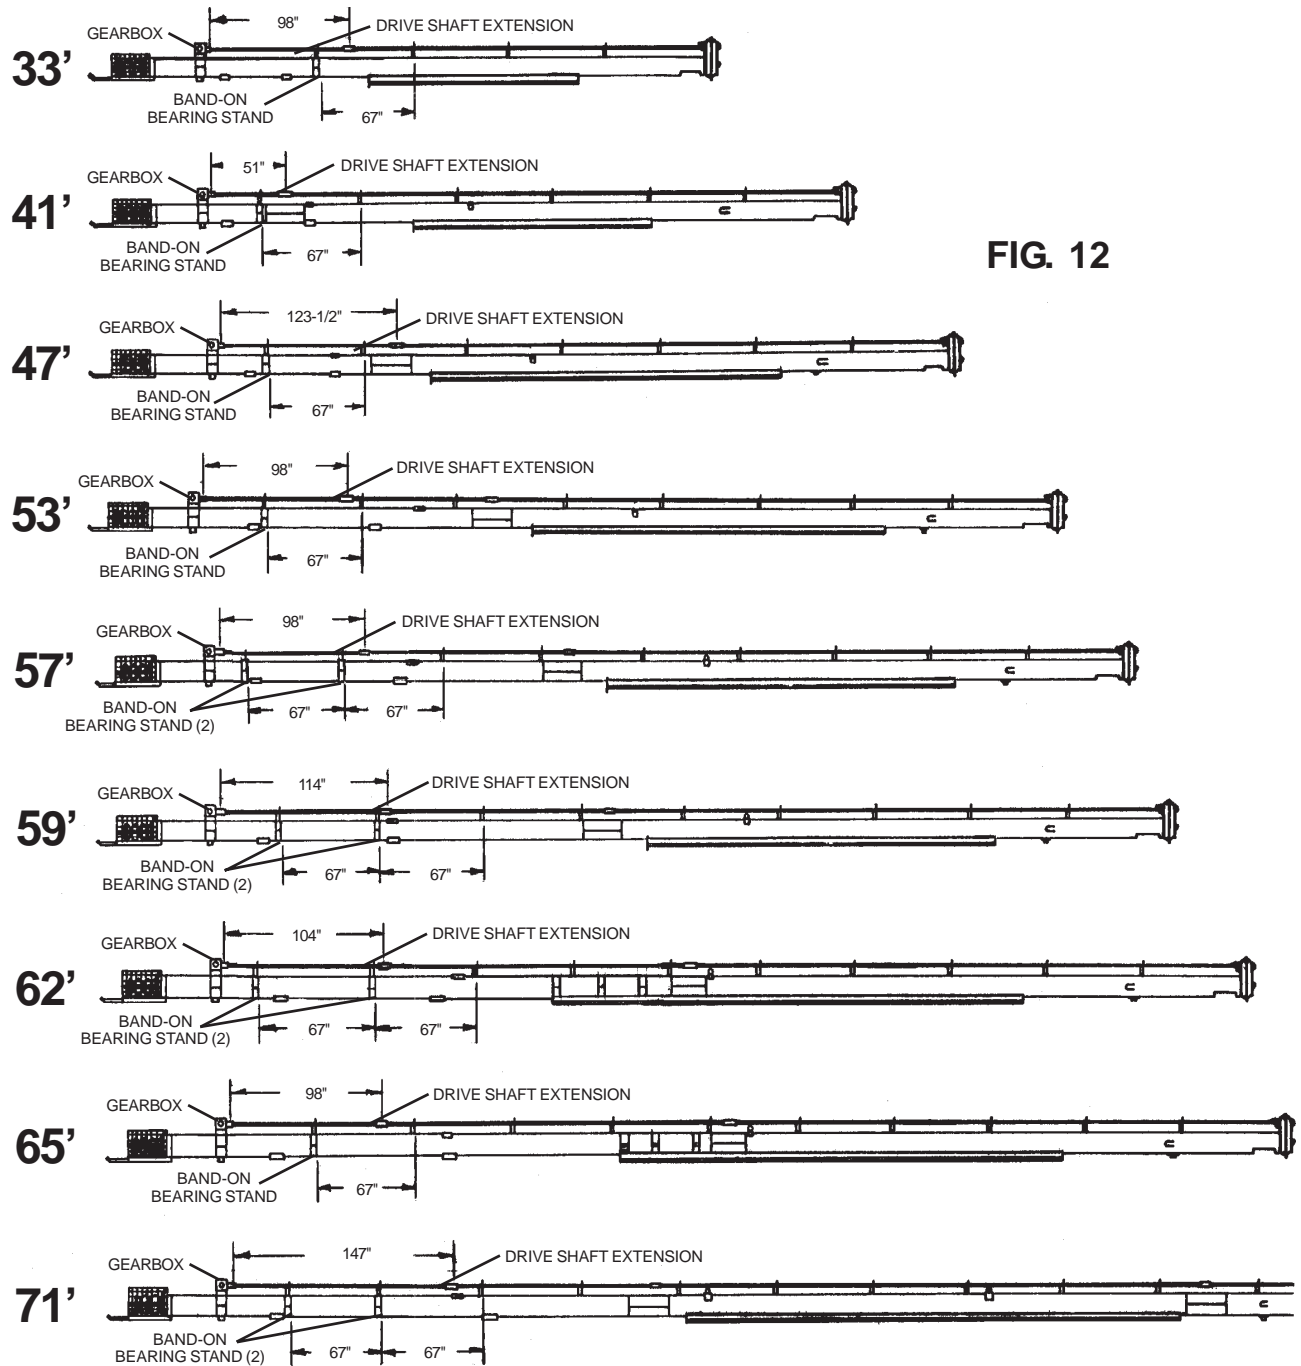

FIG. 12
Step 2. Slide bearing stands onto extension drive shaft. Attach extension drive shaft to auger drive shaft using a coupler and two 1/4" x 1-1/2" square keys. See Fig. 12 on page 21 for correct band-on bearing stand spacing. Fasten band-on bearing stand in place, using half bands and two 5/16" x 1-1/2" (grade 5) hex head capscrews and nuts. Tighten two bearing setscrews to lock bearing to extension drive shaft.